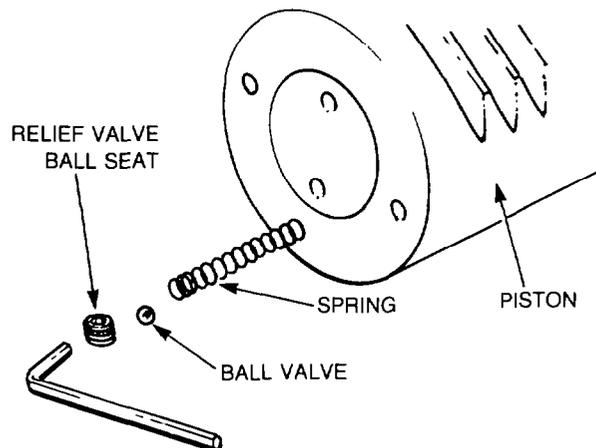

Figure 277 — Relief Valve — Removal
- s. Using a 3/16 in. Allen key remove the relief valve ball seats, ball valves and spring from the piston (see Fig. 277).